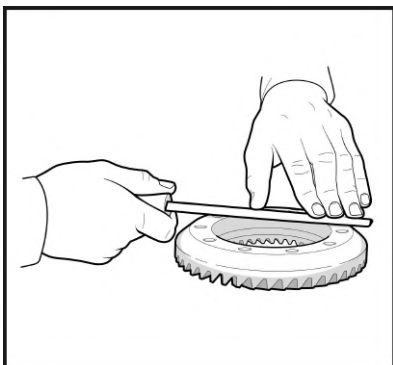

Fig. 14
2.3 Dress the mounting surfaces of the ring gear and the Electric Locker case with a file to remove raised edges and burrs around the holes and threads. (Fig. 14)